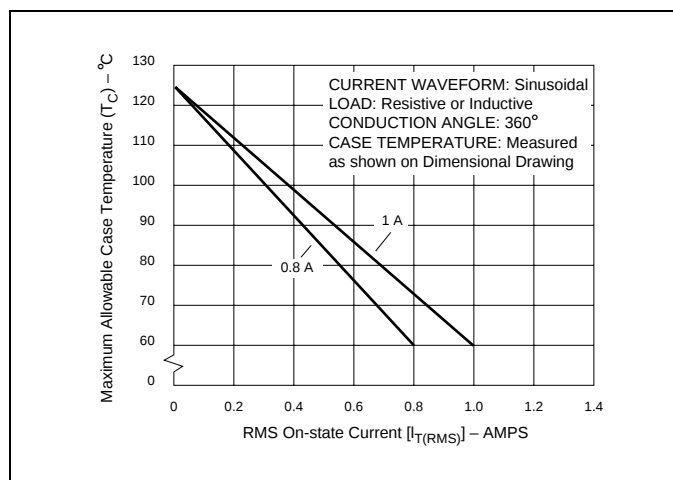
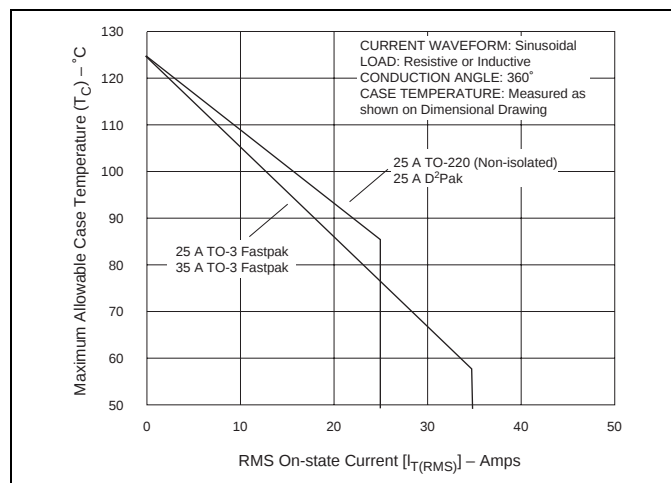
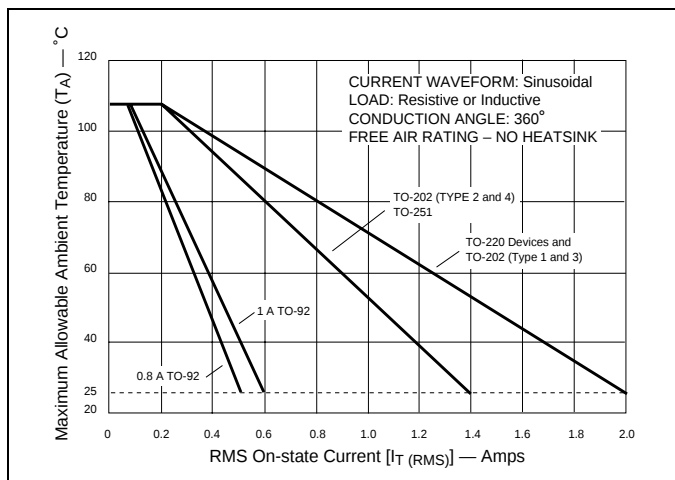
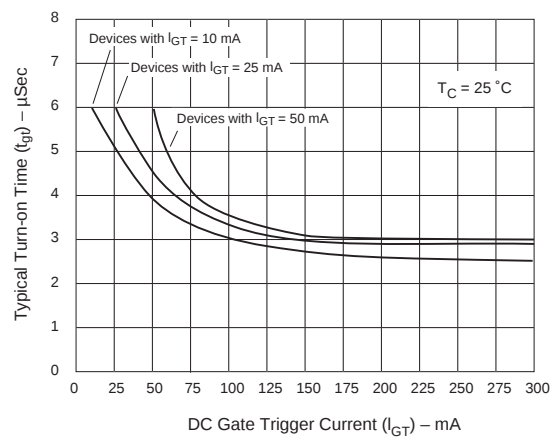

Figure E2.1 Maximum Allowable Case Temperature versus On-state Current (0.8 A and 1 A)
Figure E2.6 Maximum Allowable Case Temperature versus On-state Current (25 A and 35 A)
Figure E2.7 Maximum Allowable Ambient Temperature versus On-state Current
Figure E2.15 Turn-on Time versus Gate Trigger Current (Typical)
- (1) For either polarity of MT2 with reference to MT1 terminal
- (2) For either polarity of gate voltage (V_{GT}) with reference to MT1 terminal
- (3) See Gate Characteristics and Definition of Quadrants.
- (4) See Figure E2.1 through Figure E2.7 for current rating at specific operating temperature.
- (10) See Figure E2.15 for t_{gt} versus I_{GT} .
- (11) See package outlines for lead form configurations. When ordering special lead forming, add type number as suffix to part number.
- (12) Initial on-state current = 200 mA dc for 0.8 A to 10 A devices, 400 mA dc for 15 A to 35 A devices
- (13) See Figure E2.1 through Figure E2.6 for maximum allowable case temperature at maximum rated current.
- (14) Pulse width $\leq 10 \mu\text{s}$; $I_{GT} \leq I_{GTM}$
(18) Quadrants I, II, III only
(19) Minimum non-trigger V_{GT} at 125°C is 0.2 V for all except 50 mA MAX QIV devices which are 0.2 V at 110°C .